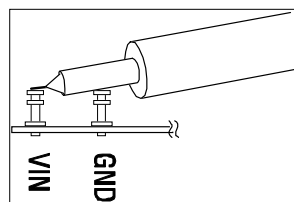

Figure 2. Measuring Input or Output Ripple
NOTE: When measuring the input or output voltage ripple, care must be taken to avoid a long ground lead on the oscilloscope probe. Measure the input or output voltage ripple by touching the probe tip directly across the Vin or Vout and GND terminals. See the proper scope probe technique in figure 2.
5. Set the load current of both outputs to 3A and the input voltage to 5.5V, and then measure each output ripple voltage (refer to figure 2 for proper measurement technique); they should each measure less than 30 mVAC. Also, observe the voltage waveform at either switch node of each regulator. The switching frequencies should be between 1.85 MHz and 2.65 MHz ($T = 540$ ns and 374 ns). In all cases, both switch node waveforms should be rectangular in shape, and 180° out-of-phase with each other. Change the shunt position on header J5 to set the switch waveforms in phase with respect to each other. To operate the ckt.s in Burst Mode™ or pulse-skip mode, change the shunt in header J7. When finished, insert shunts XJ1 and XJ2 to the OFF position(s) and disconnect the power.